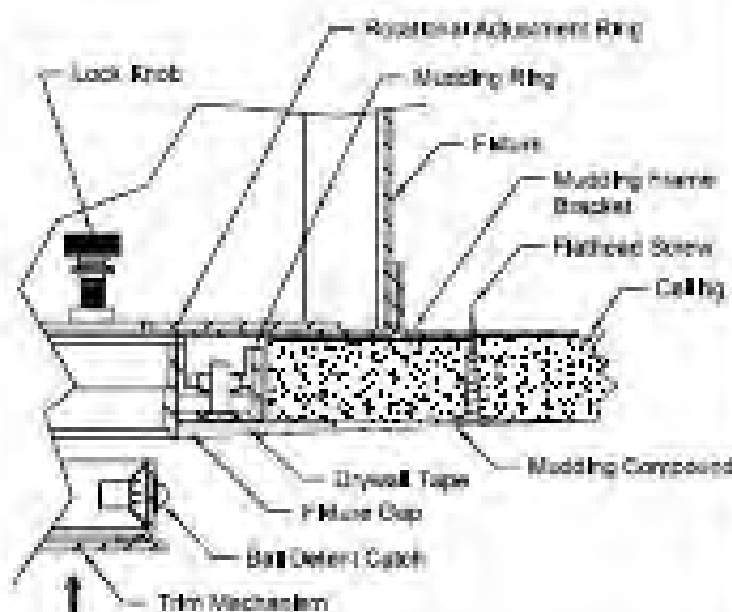

Figure 3
9. Install Ceiling drywall up to Mudding Ring on Fixture so that the two (2) Mudding Frame Brackets contact inside of Ceiling. See Fig. 3.
10. Retain Fixture to Ceiling with one (1) Flathead Screw through each of two (2) Mudding Frame Brackets. See Fig. 3.
11. Apply Drywall Tape and Mudding Compound to Mudding Ring overlapping Mudding Ring, Flathead Screws, Fixture Gap and surrounding area. Feather out Mudding Compound from Mudding Ring opening to surrounding ceiling area to produce a smooth, flat finish. See Fig. 3.
2. Install Trim Mechanism into Fixture by pressing firmly to seal Ball Detent Catches, See Fig. 3.